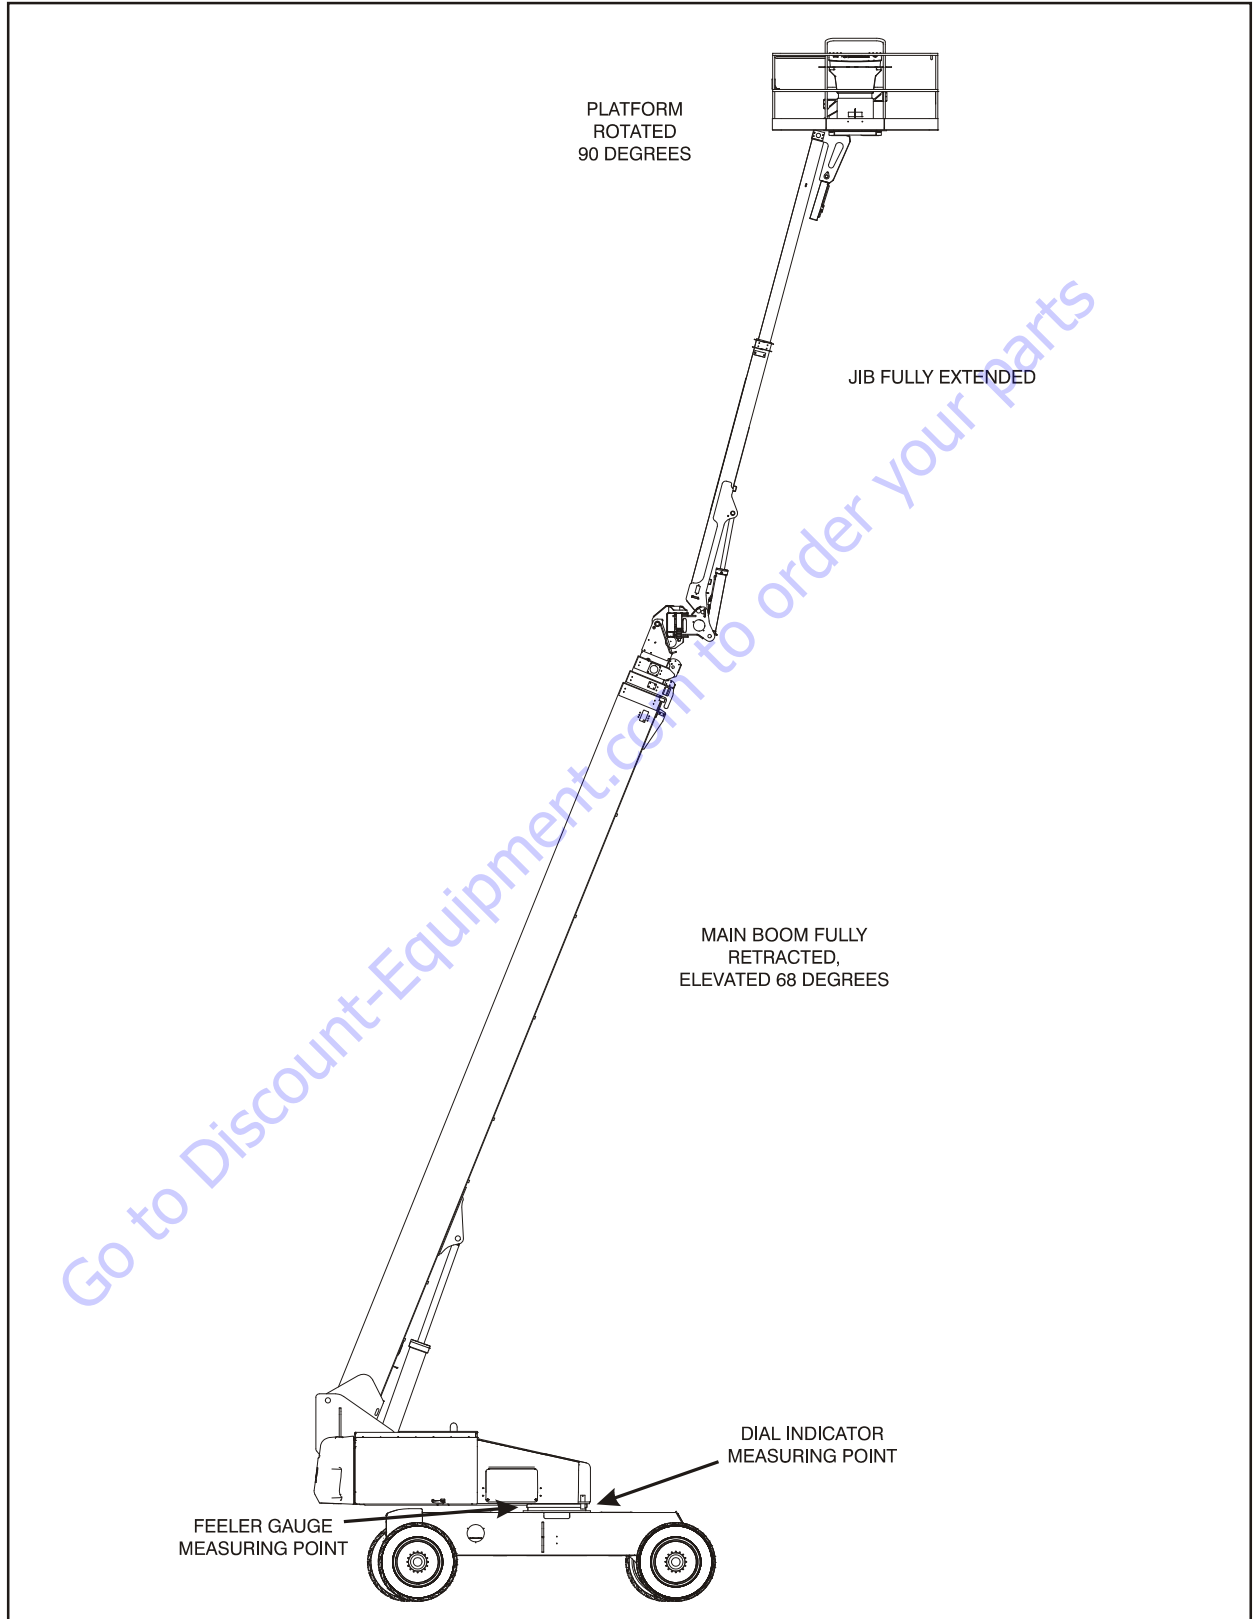

Figure 3-56. Swing Bearing Tolerance Boom Placement - Sheet 1 of 2
- a. Fully elevate the main boom. (See Figure 3-56.).
- b. At the position indicated on Figure 3-56., try to insert a 0.0015" feeler gauge between the bolt and hardened washer at the arrow indicated position.
1. From the underside of the machine, at rear center, with the main boom fully elevated and fully retracted, as shown in Figure 3-56., Swing Bearing Tolerance Boom Placement - Sheet 1 of 2, set up a magnetic base dial indicator as shown below and set the indicator to 0 (zero).